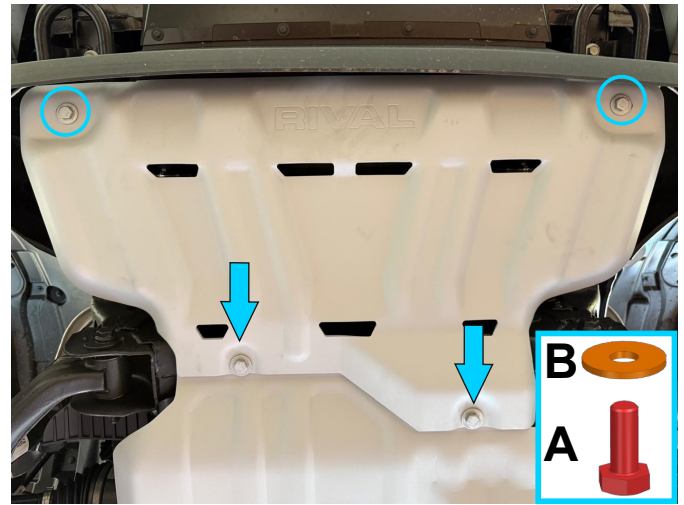

Fig. 2
2. Put radiator skid plate (item 1) on installed bolts M10x30 and washers 10 from step 2. Fix the front part of skid plate, using bolts M10x30 (item A) and washers 10 (item B), as shown in fig.2.